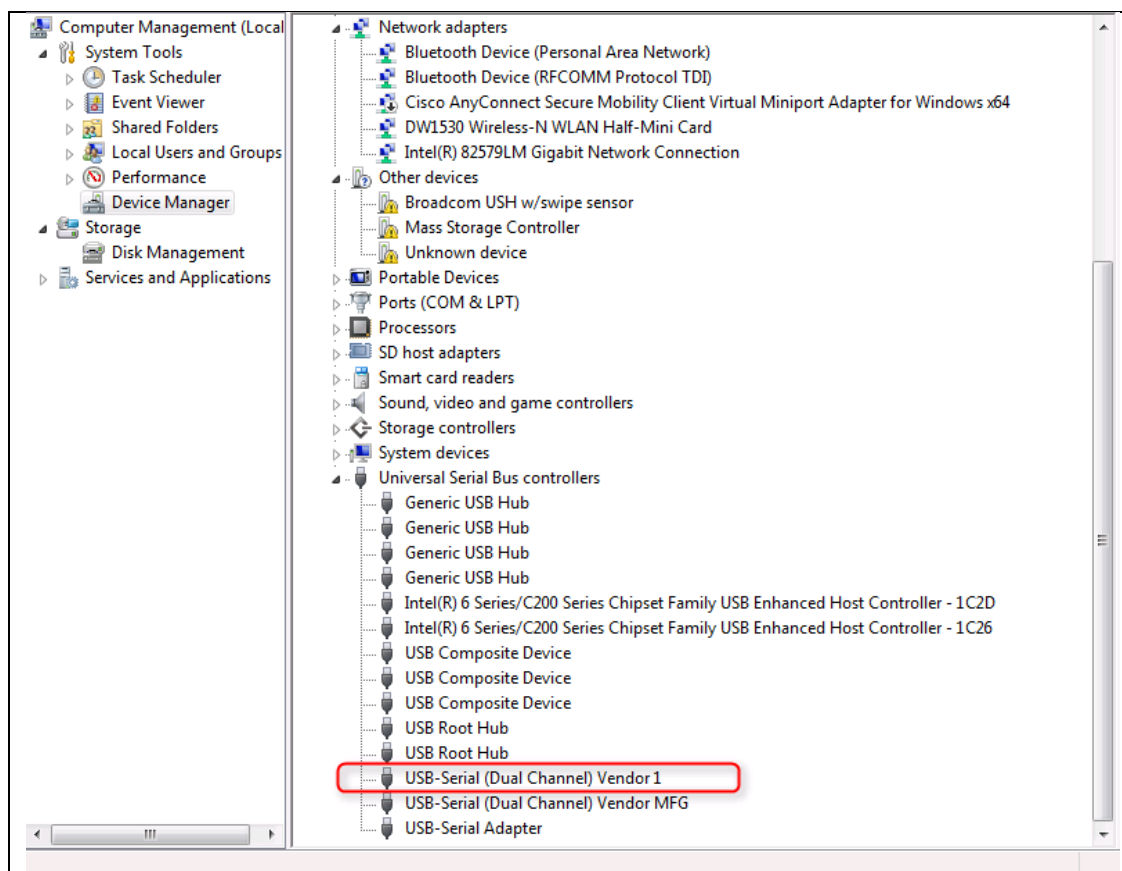

Figure 13 Device Manager View Showing USB-Serial Bridge Device
1. Wait for driver detection and binding for the USB-Serial controller on the CY4541 CCG4 EVK. The driver for this controller can be obtained by searching on Windows Update. Once the driver installation is successful, a “USB-Serial (Dual Channel) Vendor 1” device will be listed under Universal Serial Bus Controllers in the Device Manager window. See **Figure 13** for the expected device listing.